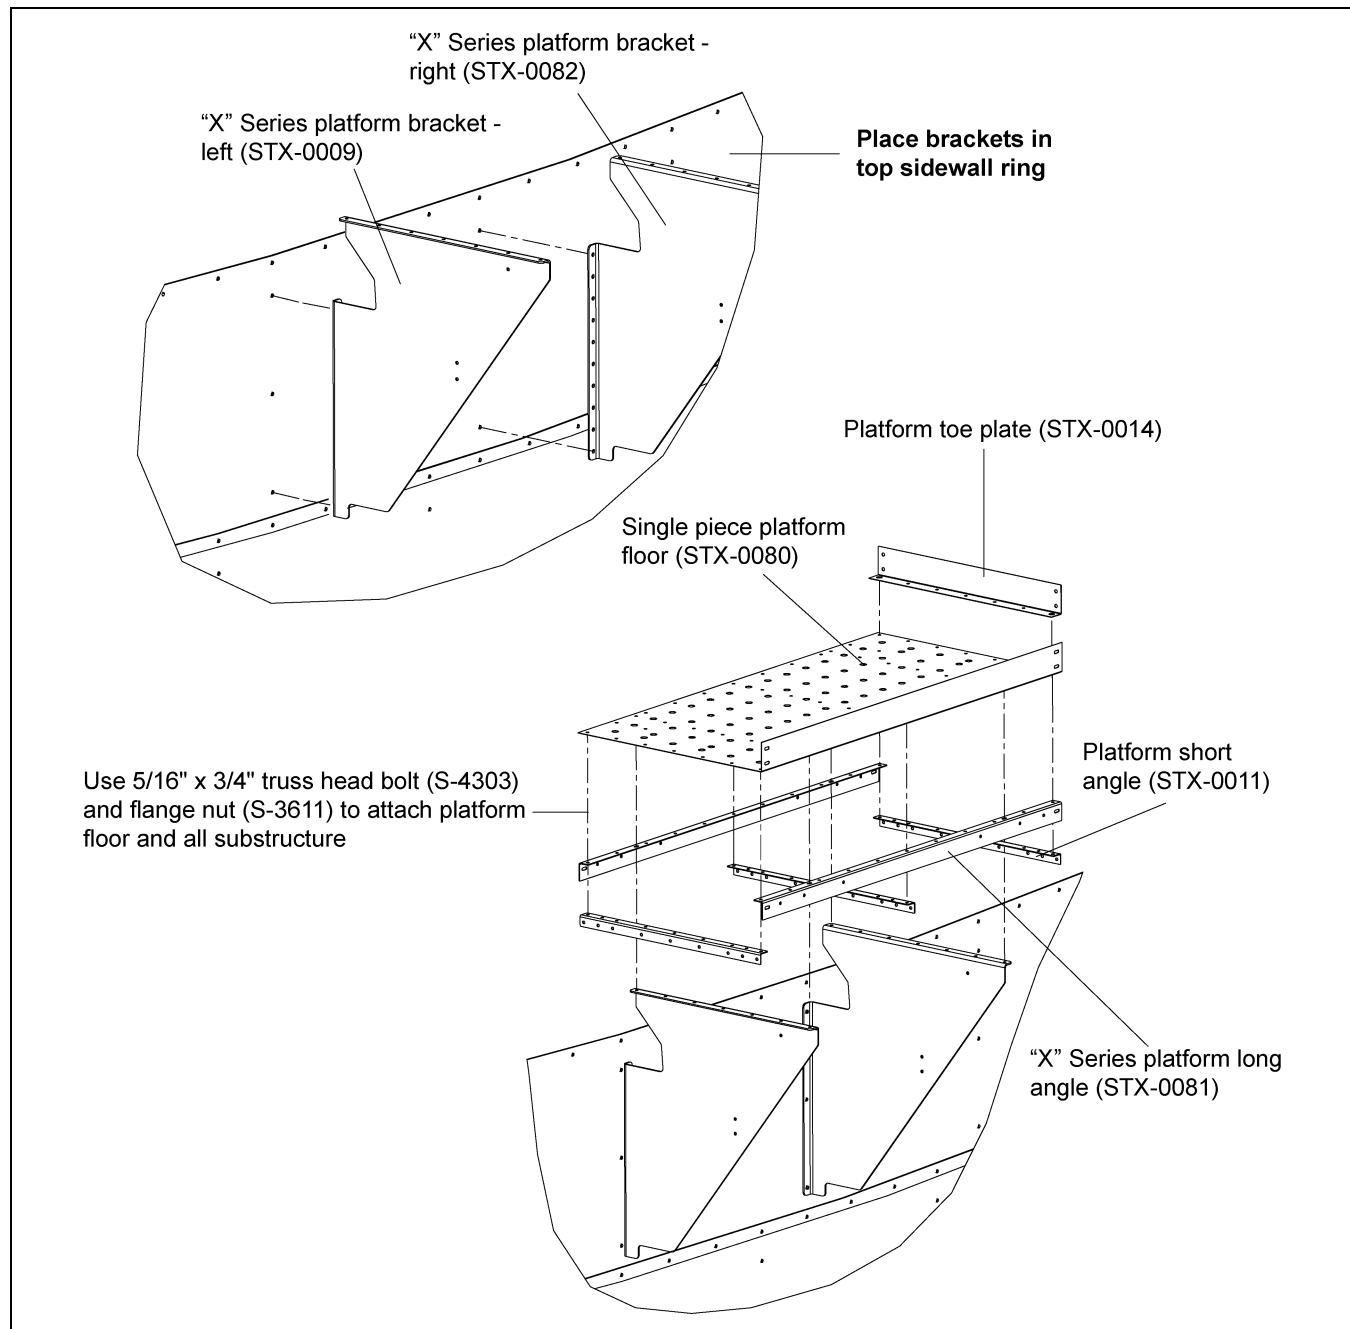

Figure 4A
1. Figure 4A shows the assembly of the platform supports. Use 5/16" hardware at all the connection points. (Platform floor will have to be attached at the same time as support angles.)
2. Figure 4A shows the assembly of the platform floor system. This must all be assembled at the same time using 5/16" hardware.